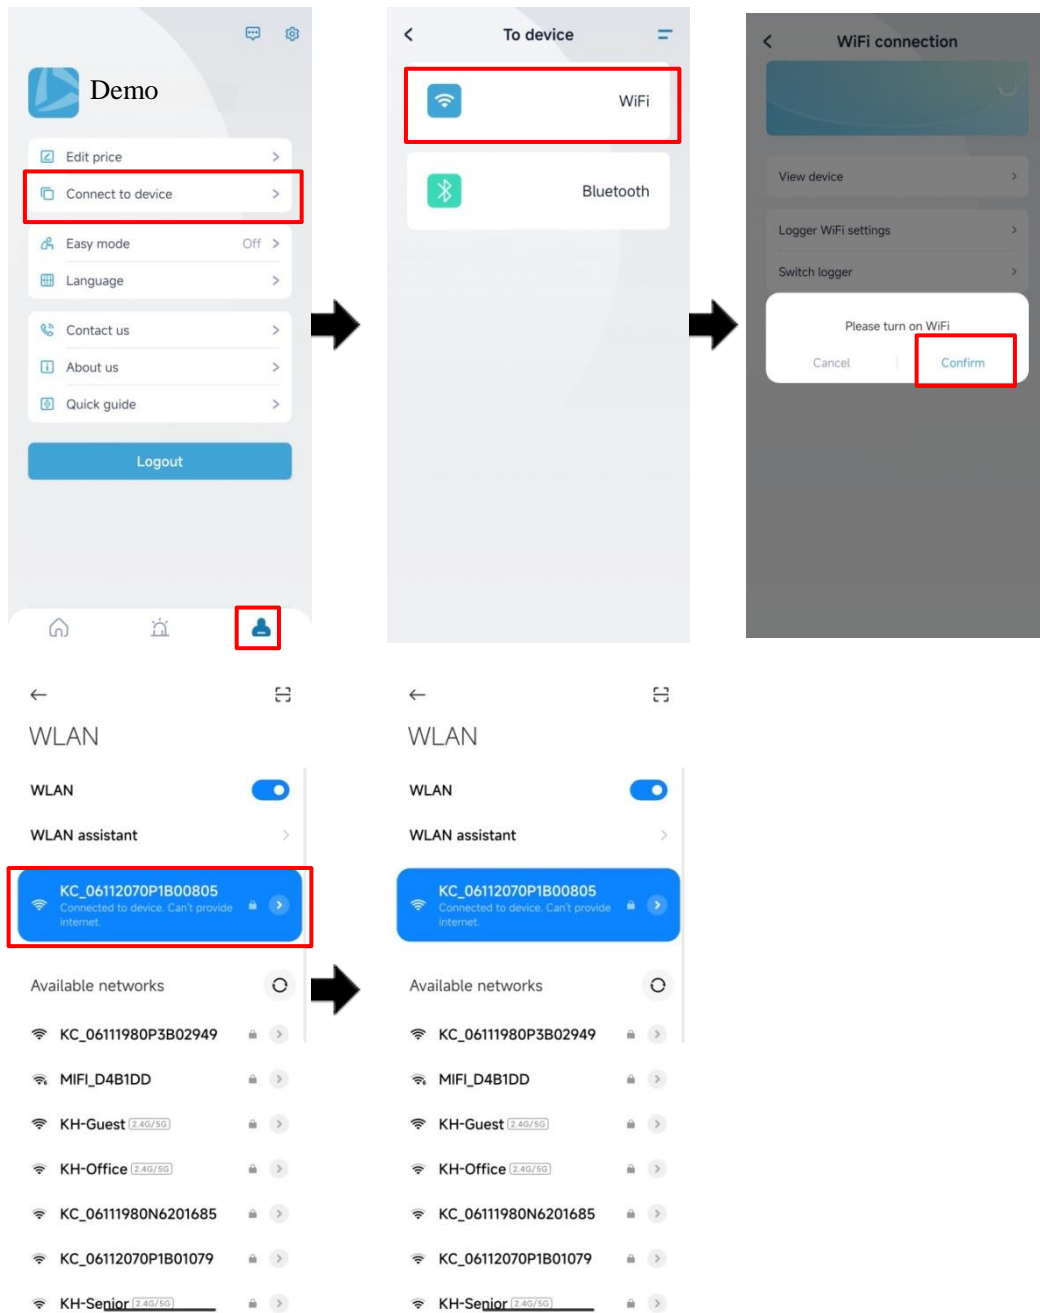
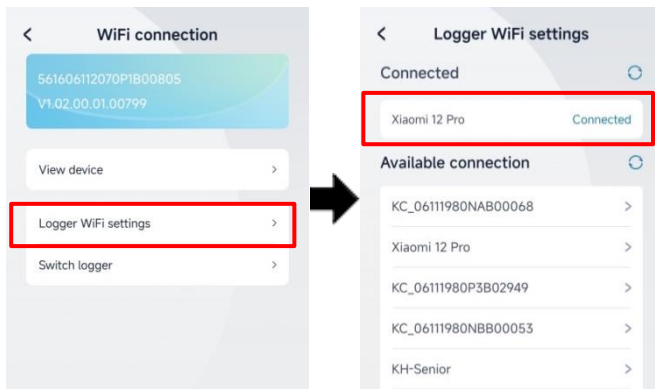

Figure4-8 Connect device
Figure4-9 Configure WiFi
Step 10 Tap the right bottom icon in the main page, then tap **Connect to device**, and then tap **WiFi** icon, it will show the tips. Tap **Confirm** button, it will turn to WiFi list. Select the WiFi whose name is the same as that of WIFI module, and then enter the default password: admin12345678, the WIFI module will be connected, as shown in Figure4-8.
Step 11 Tap the device S/N (last page as shown in Figure4-8) to enter the page as shown in Figure4-9. Tap **Logger WiFi Settings**, select an available WiFi in **Hotspot list**, when it prompts: **WiFi connecting successful**, tap OK. At this time, the currently connected WiFi should show **Connected**.